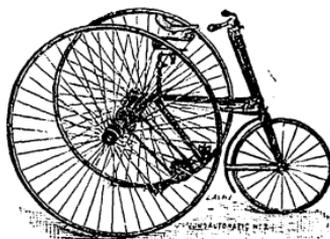
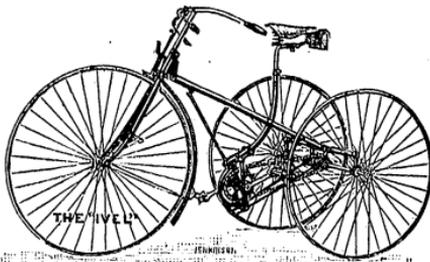

Fig. 29.—High-frame Crippler (1884).
Fig. 30.—The direct steerer.
first machine was ridden by R. Cripps, who won a large number of amateur races on it; so much was it identified with him, that it got to be known as the Crippler, and the term is even now applied by those who have so slight a knowledge of cycle construction that they cannot distinguish between the Crippler (see Fig. 29) and the machine of to-
day, the Direct Steerer (see Fig. 30) The former had, generally, 46 to 50 inch rear, and an 18 or 20 inch front wheel, controlled by a strong spring, in order to keep it straight. The chain was in the middle, but the driving gear was at the side, and the axle had only a narrow bracket support in the centre (see Fig. 29). We have elsewhere declared the points of the modern machine. Later on in the year, a Humber Safety bicycle, almost on the
complete a perfect model of the latter was Hillman, Herbert and Cooper. They abolished the spring-controlled 20-inch pilot, and substituted a 28-inch free wheel; the old bracket-supported axle with side gear box was banished, and its place taken by a stout cross tube supporting the axle on four places, at each side close to the wheel-hubs, and in the middle on either side of the central gear box (see Fig. 30). This proved so successful on the racing path, that it in turn became the generally accepted model, and the old Crippler vanished from the scene, leaving the Direct Steerer the first favourite, which it still remains. Nearly all have the same salient points, but differ slightly in the detail of the connecting framework or minor points. We illustrate typical machines (see Figs. 29 and 30), so that points of difference between the opposite machines can be seen at a glance, and every reader saved from committing himself (or herself, as ladies are special offenders, even amongst those who have risen into authorities on the subject) into confusing the two types. Only one other pattern of tricycle commands favour with the riders of to-day. This is the modern development of the Edinbro' (1865-1875), Singer's No. 2 Challenge, and Garrard's Gnat. These had, however, been almost forgotten; but the latter still finds a place in the list of the Metropolitan Machine Co., Limited, of Bishopsgate Street Without. It was re-introduced by G. J. H. Dearlove, the well-known Islington agent, plus bicycle steering, at the Stanley Show, January, 1886, as the Phantom, and it is by this name the type ought to be known, and not that generally bestowed upon it. A little later it made its *debut* in the racing world, by being the first tricycle home in the North Road Cycling Club's fifty miles contest, on June 18, 1886. After this practical demonstration of its merits, other makers were not slow to avail themselves of
*The Single Tricycle* has now been brought into such close alliance with the Safety bicycle, that the two machines can easily be made interchangeable. This is very well carried out in the Ivel, and one or two other machines; the former we illustrate (see Fig. 30, p. 48). It is a good specimen of the almost universal direct-steerer—drivers, 30 inches; pilot, 32 inches; the backbone, or main connecting-tube, is made with a fork, the ends of which bolt to the bearing-cases on either side of the central driving-gear on the rear axle. When a conversion is desired merely, these balls have to be slacked, the axle taken off, one of the wheels removed, and a spare axle, etc. (easily carried in the M. I. P. bag), placed in its hub, where it is secured in the fork (backbone) ends, the chain placed in position, when a Safety bicycle is the result. The great bulk of single tricycles are built on the lines we have already described; but most makers have their own ideas as to the frame-work. In most cases, the machines are alike suitable for either ladies or gentlemen,